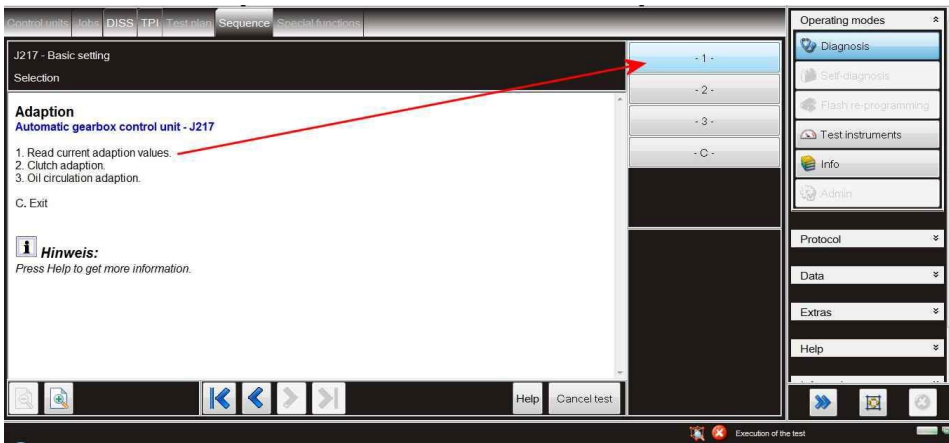

Figure 15
- Referring to Figure 15 - Select -1- Read current adaption values